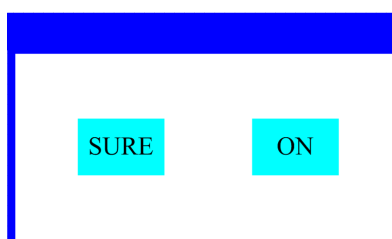

Figure 5 Dialog of confirm
- When the parameter is a key item, chick corresponding item, a dialog shown in Figure 5 will been popup ask for the confirm. Chick ‘sure’ to confirm.